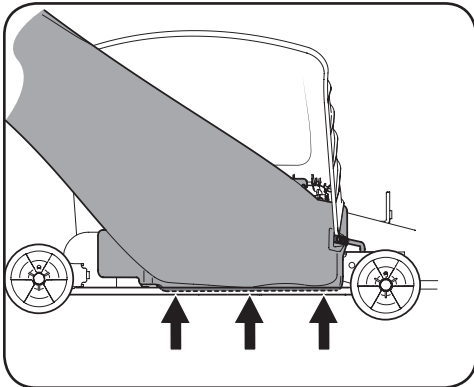

Figure 4-23
**Important!** Be certain that the bottom of the discharge chute is located inside of the lip of the deck opening, as shown in Figure 4-23.